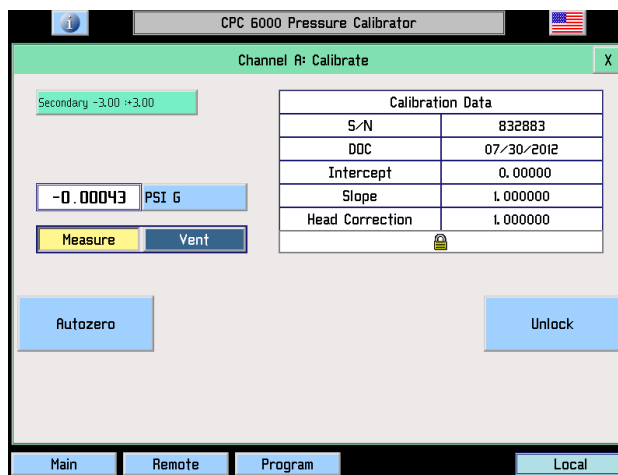

Figure 10.6.1A - Calibration Data Screen (locked)
1. Press the [Calibrate] key to see the Calibration Data screen similar to Figure 10.6.1A. Notice the padlock.